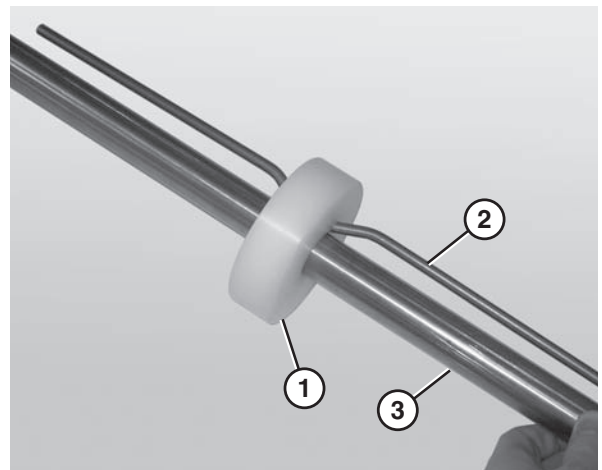

Figure 76
1. Place the idler puck (**Figure 76, item 1**) at the center of the bent retaining bar (**Figure 76, item 2**).
2. Slide the idler puck onto the idler shaft (**Figure 76, item 3**). Make sure to center the idler puck.